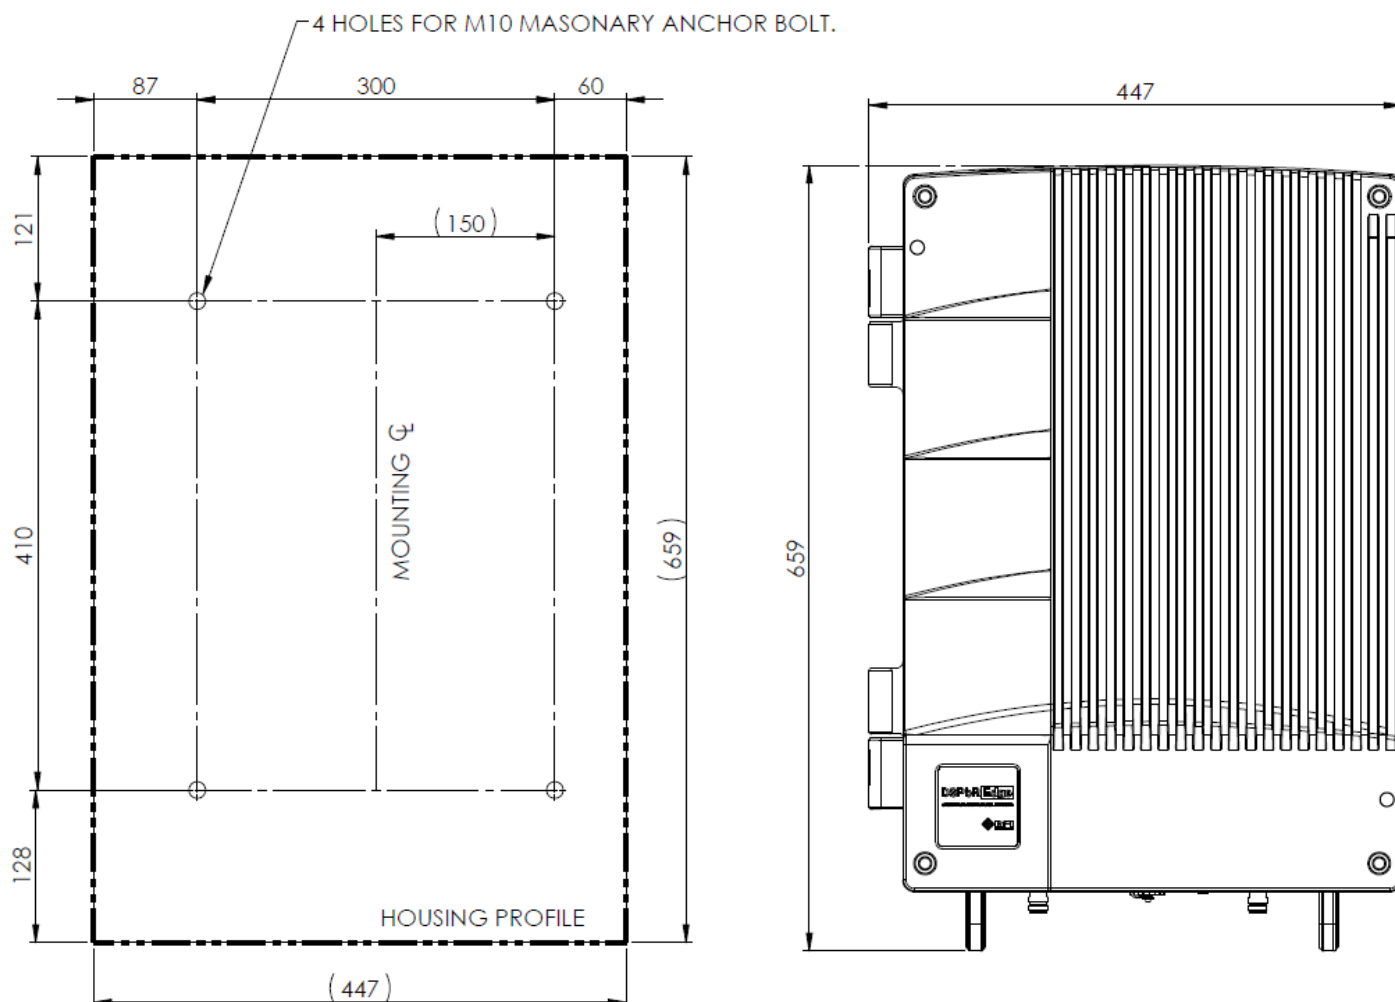

Figure 1: Wall mount fixing dimensions & centres and Edge Repeater front elevation view.
- 4.2.1 Choose the wall location noting the dimensions shown in Figure 1 &